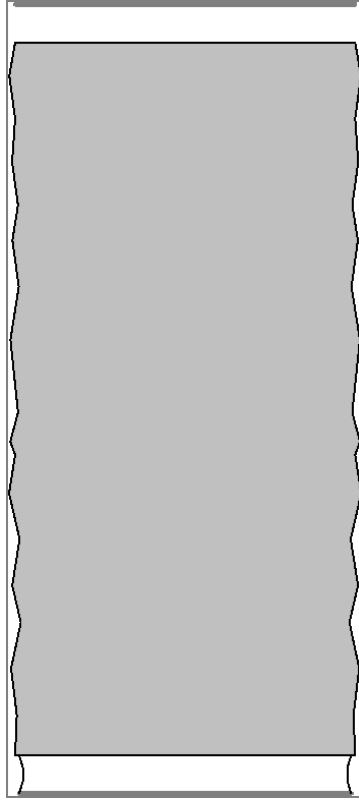

FIGURE 12.26: The solid pattern covers the previous pattern. You'll fix this in a moment.
14. On the Mode panel, click Finish Edit Mode, and then press Esc. Your brick should look like Figure 12.26.